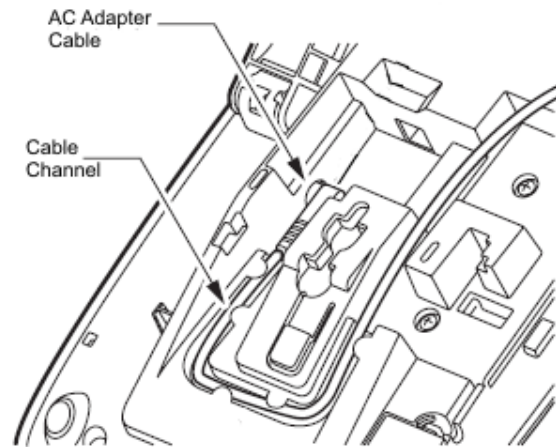

Figure 5-107 Connect AC Adapter Cable
17. Connect the AC Adapter cable (DT300/DT400/DT700/DT800 Series) See Figure 5-107 Connect AC Adapter Cable on page 5-100.